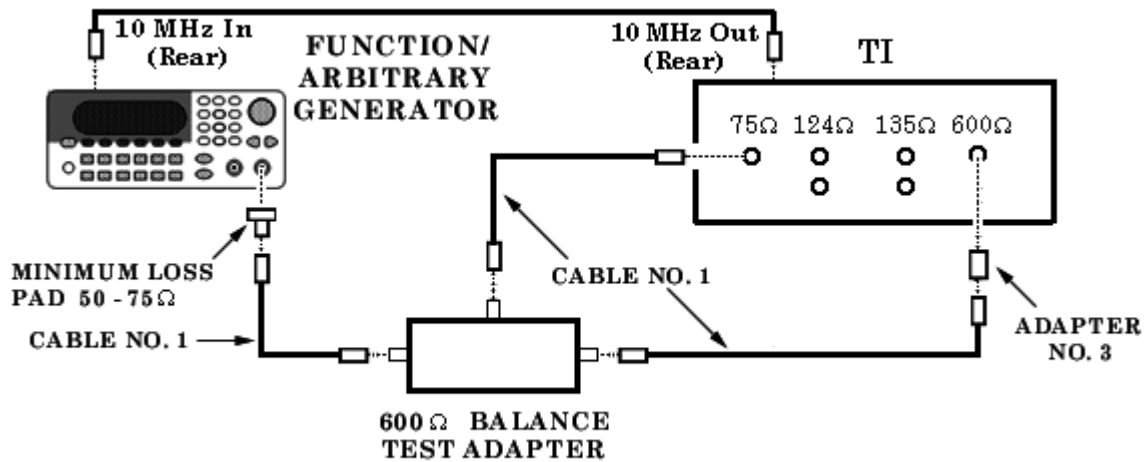

Figure 3. Balance test 600 Ω - equipment setup.
- (1) Connect equipment as shown in figure 3.
- (2) Press TI **ENTRY [RECALL] [0]** and **TERMINATION [75 Ω]** pushbuttons.
- (3) Set function/arbitrary generator for 50 Hz and amplitude for +10 dBm output.
- (4) Press TI **ENTRY [FREQ] [5] [0] [Hz MIN], MEASUREMENT/ENTRY [AVE],** and **BANDWIDTH [20 Hz]** pushbuttons.